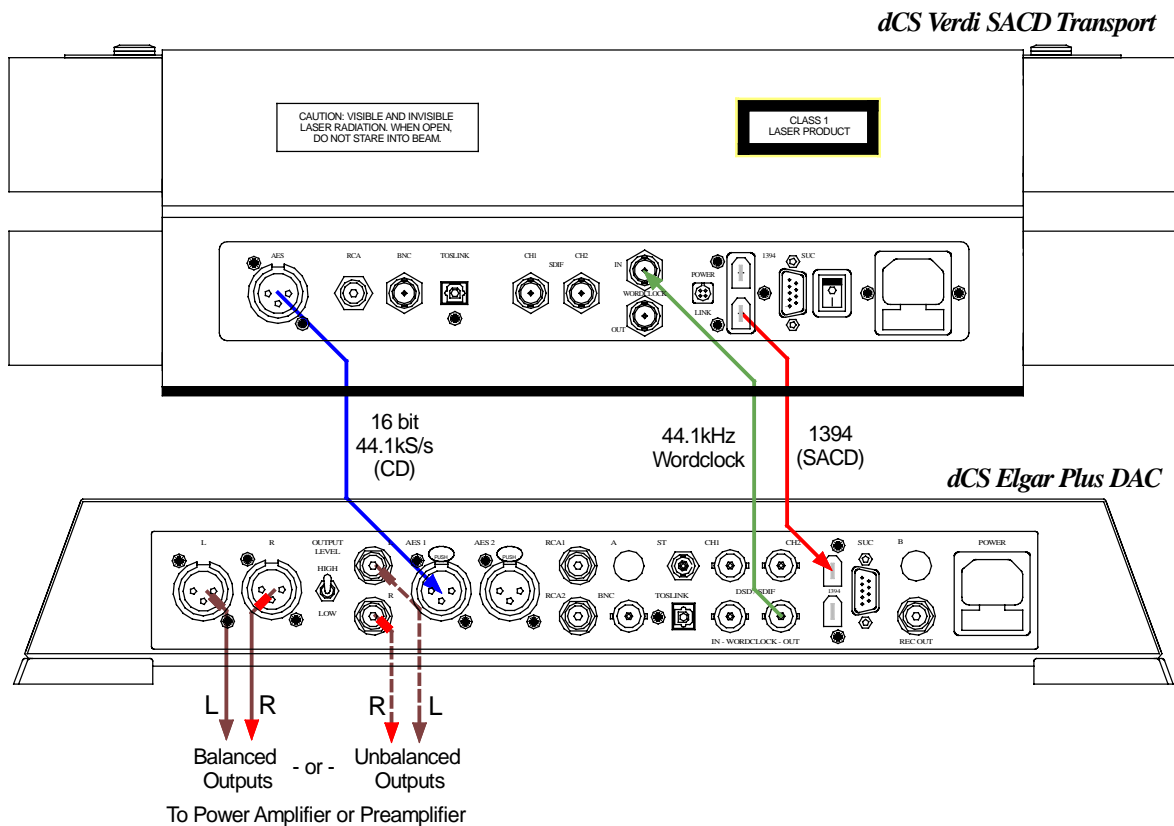

Figure 2 – Using a DAC in Master mode
**do this:** Connect up as shown in **Figure 2**. You can use a different PCM interface for the CD data if you wish.